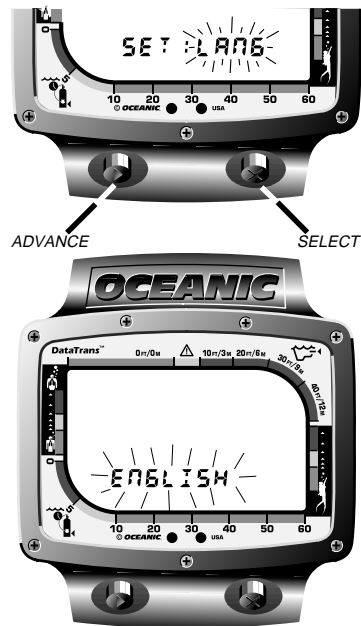

Fig. 22 - Language Preference Setting
4. Press the Select button to select the Language setting. The default setting ENGLISH will appear in the lower portion of the screen, flashing (Fig. 22).